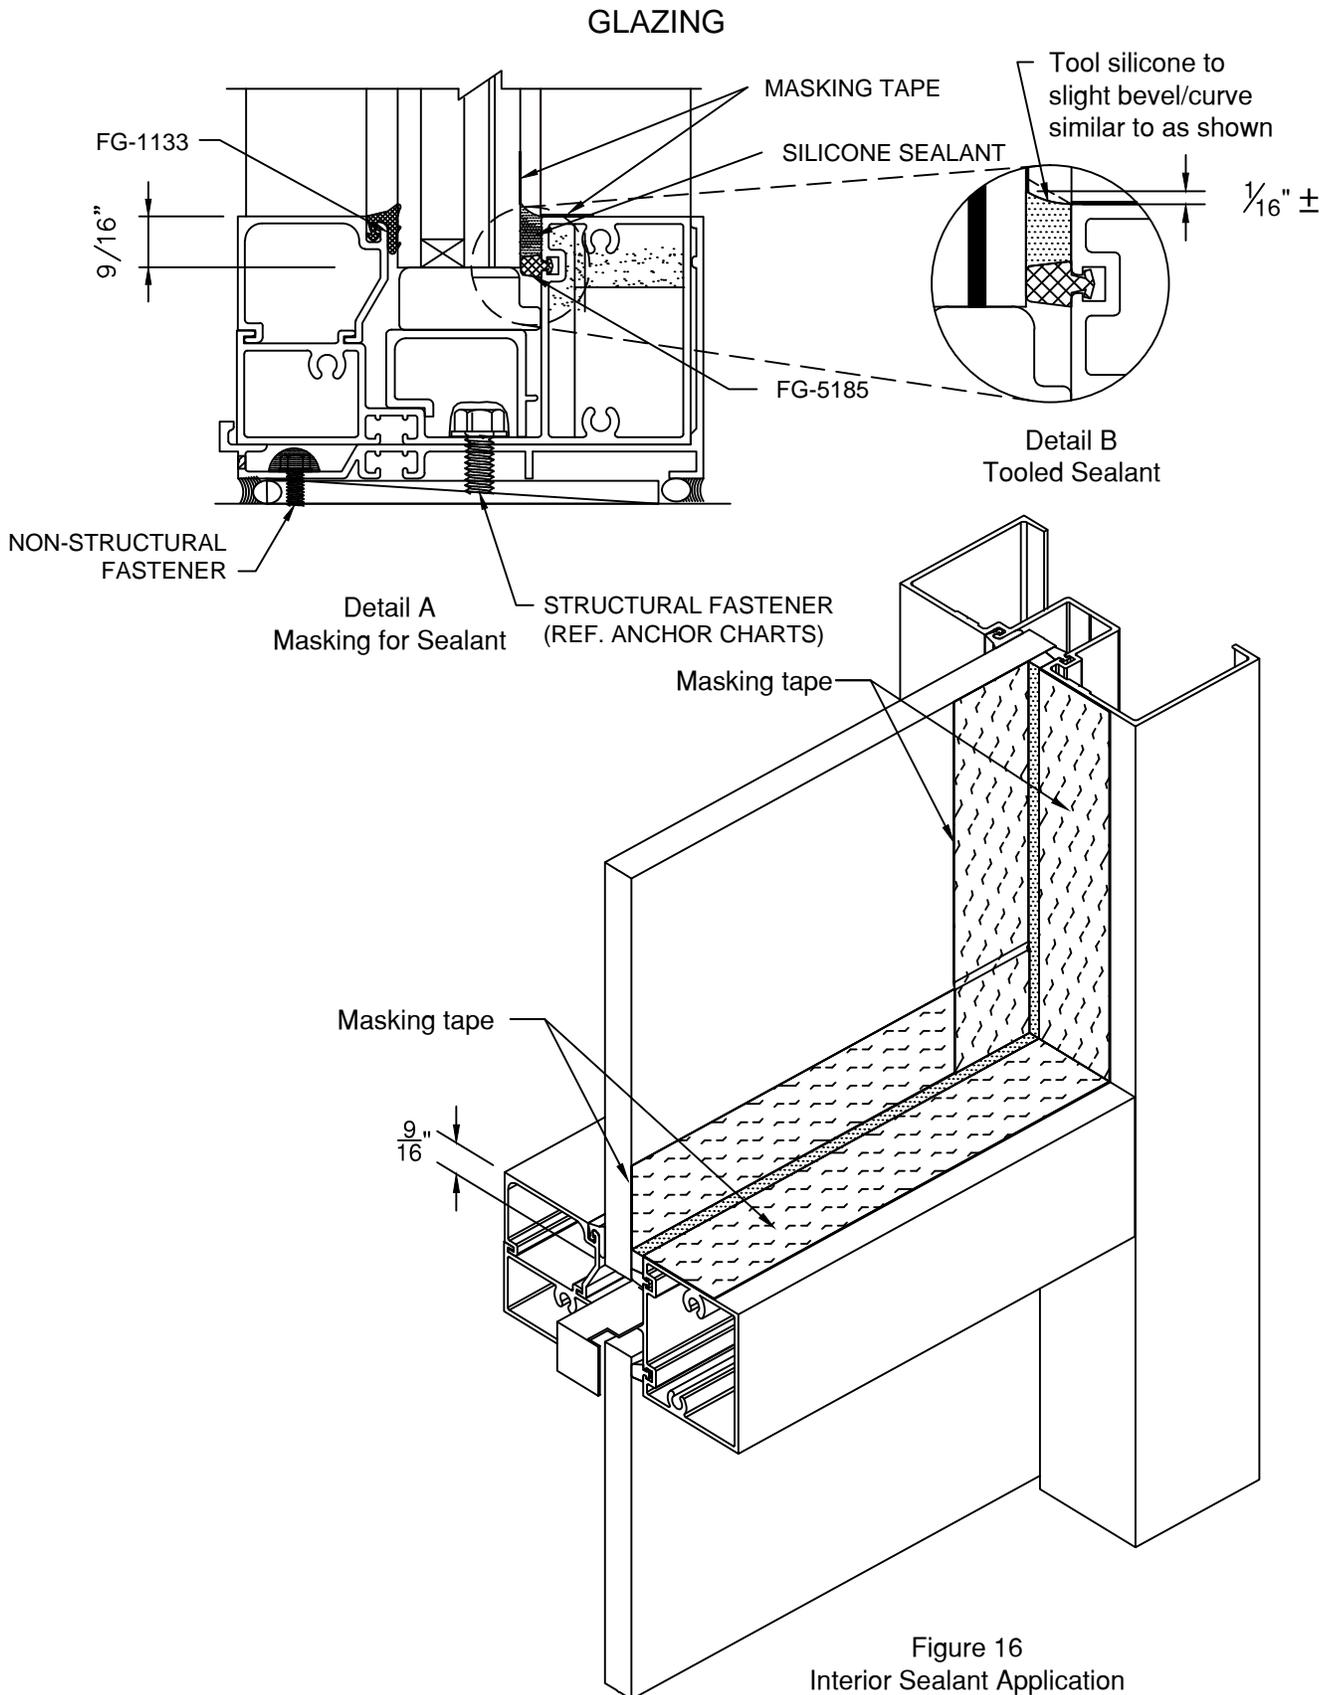

Figure 16
- 4.2.1 Set glass into opening, push in to deep pocket first, at sill place glass on FG-5225 setting chair, then after centering in DLO, pull glass up and position FG-5186 setting block on setting chair (at 1/4 points) **See figure 16 on sheet 10.** At horizontal same procedure is used, except no setting chair is used.
4.2.6 Mask off glass and aluminum with 1" wide (minimum) low adhesion masking tape. **See Figure 16.** Working a single DLO at a time, Fill cavity around full perimeter of DLO with Dow Corning 995 sealant as shown, care should be taken not to leave any voids and eliminate air bubbles in sealant **(See Detail. A)**. Immediately tool , creating a finished joint with a beveled/curved joint surface **See Detail B on page 19.**